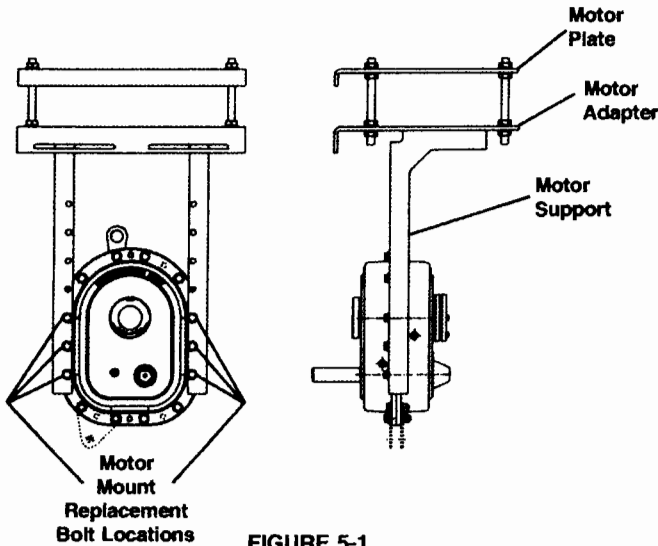

FIGURE 5-1
5.1.1 Remove the three housing flange bolts and washers on each side as shown in Figure 5-1.